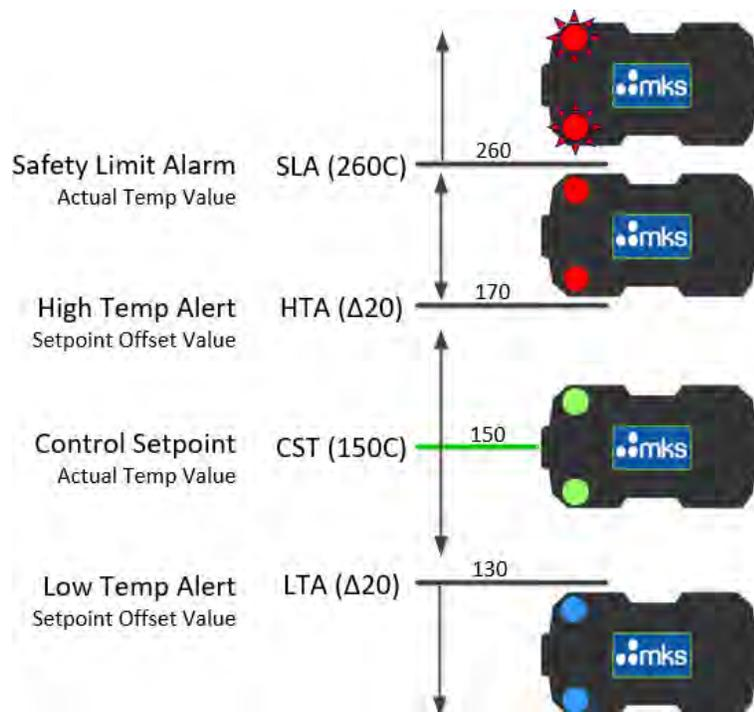

Figure 13: Series 49 LED 1 Display- most common conditions
The most common display indications are shown in Figure 13 below, for a full list of display indicators and definitions see Table 4: S49UL Troubleshoot Guide near the end of the document
- HTA parameters – see Figure 13 above), the controller will then indicate a Low Temperature Alert (Status LED's illuminated solid Blue).